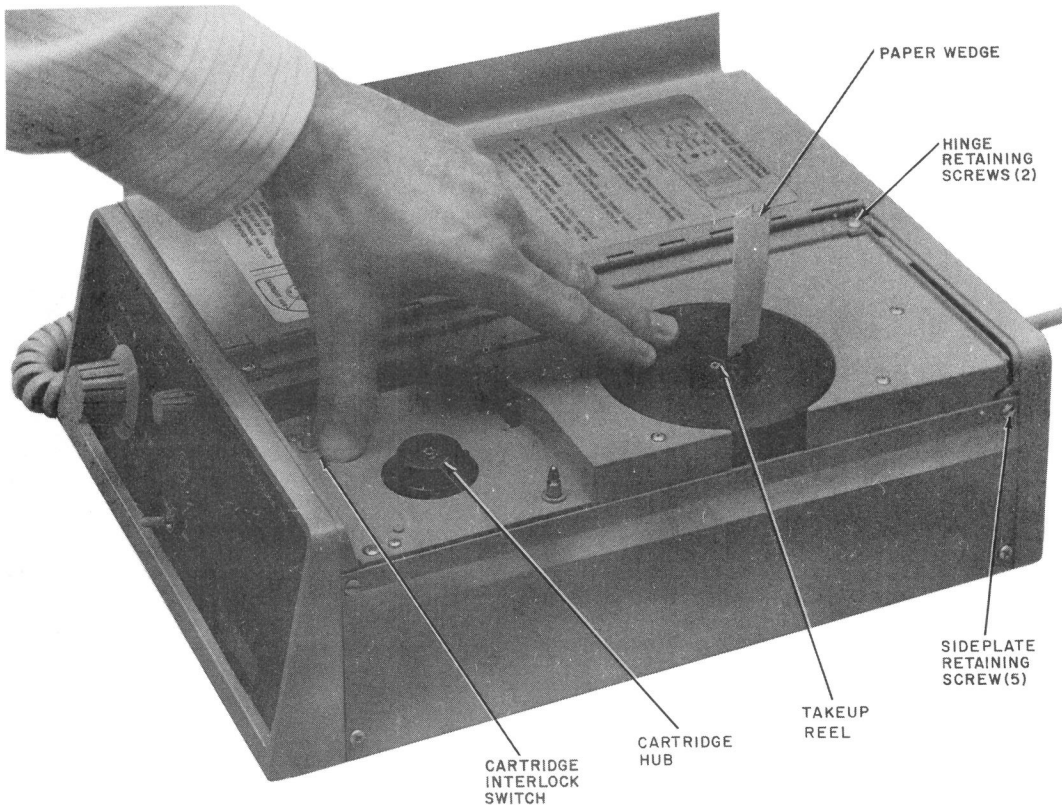
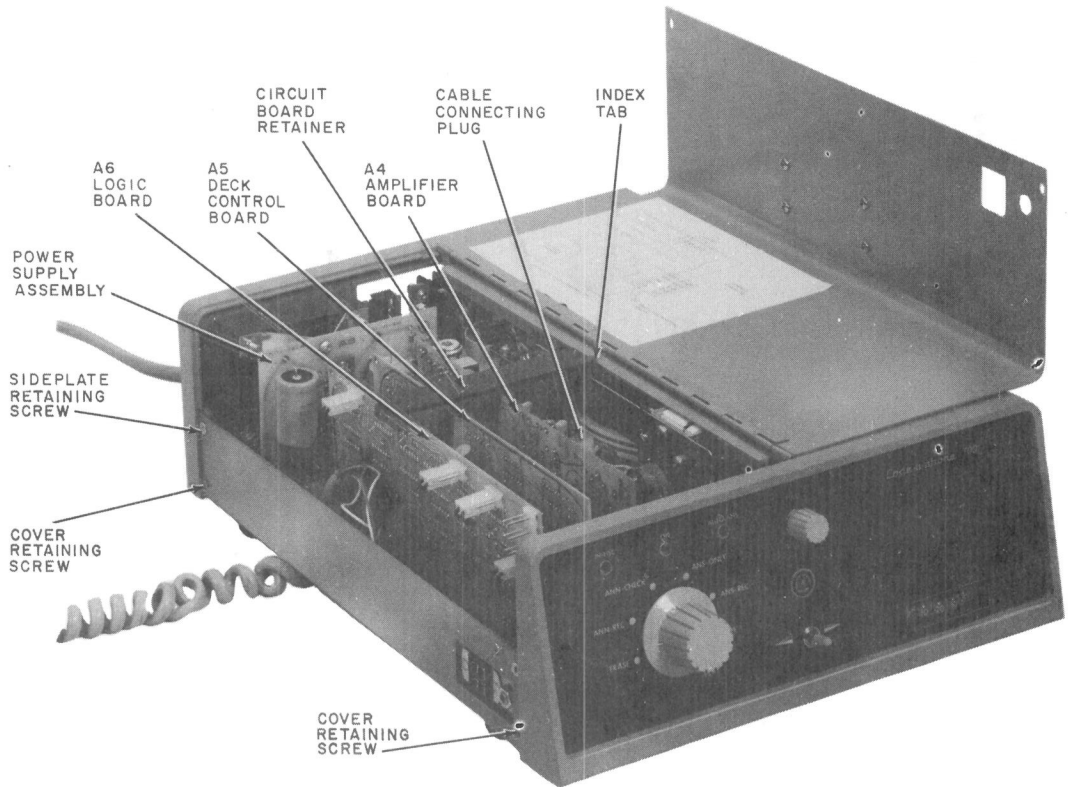

Fig. 2—Resetting "0" Registration on Message Indicator Dial
Fig. 3—Top Cover Removed, Internal View of Components
- (3) Verify the message tape is not at the end limit by making certain that the message indicator dial is reading less than 80.
- (4) Check phone connection at set terminal board for type of service.
- (5) Remove cover retaining screws from left side.
- (6) Lift left side cover and remove circuit board retainer.
- (7) Remove power cord from ac outlet.
- (8) Check options for proper selection.
- (9) Check that A4, A5, and A6 circuit boards are properly installed.
- (10) Check that cable connecting plugs for power supply and tape deck (Fig. 6) on the interconnect board and the cable connecting plug on the A4 board (Fig. 3) are firmly in place.
- (11) Replace circuit board retainer, left side cover and reinsert ac power cord.
- (1) Manual method (Fig. 2).
- (2) Rapid rewind method (Fig. 2).
4.01 Plug-in Circuit Boards (A4, A5, and A6; Fig. 3).
- (1) Remove top cover (Fig. 3).
- (d) Remove two hinge retaining screws (Fig. 2).
(2) Remove tape deck.
- (a) Remove cable connecting plug for A4 circuit board (Fig. 3).
- (g) Install cable connecting plug for A4 (Fig. 3).
- (6) Install cover.
- (b) Install two hinge retaining screws (Fig. 2).
- (d) Open left side of cover and install circuit board retainer (Fig. 3).
(3) To install cartridge (Fig. 2).
(a) Remove two cover retaining screws from left side (Fig. 3).
(b) Lift cover and remove circuit board retainer (Fig. 3).
(k) Replace the circuit board retainer making certain that all circuit boards are in the slots of the retainer and that the index tab of the retainer fits into the slot in the tape deck assembly (Fig. 3).
(4) Close cover and install two retaining screws (Fig. 3).